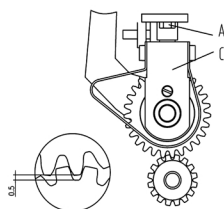

图33 (Fig.33)
上下滚轮的间隙: 将下滚轮放至下死点在自由状态时, 上滚轮与下滚轮的齿间隙为0.5mm (图33), 且两滚轮平行。调整:
1. 两滚轮平行调整: 将螺钉(A)放松, 调整两滚轮平行后, 稍紧螺钉(A)上下移动固定座(C), 使上下滑动顺畅, 再锁紧螺钉(A)。(图33)
The teeth gap between top and lower rollers should be 0.5mm (Fig.33), when the lower roller is free and at its dead bottom end and parallel to the top roller.
1. Paralleling adjustment: Paralleling Loosen screw (A) and top and lower rollers parallel. Tighten screw (A) slightly and move frame Base (C) up and down to its smooth. The tighten screw (A). (Fig.33)